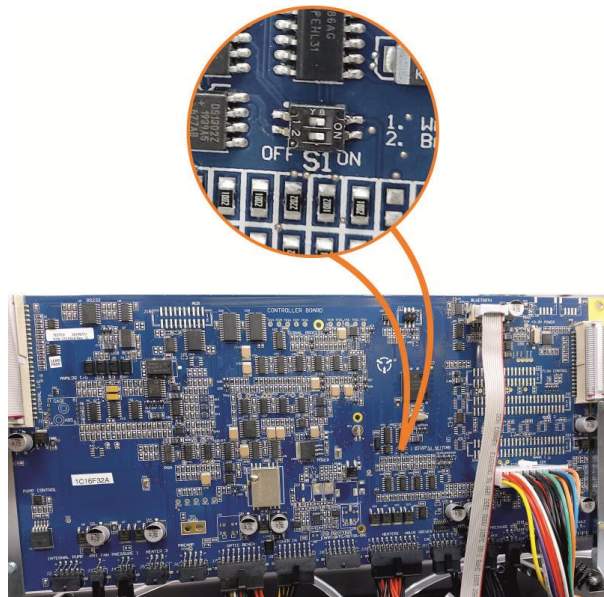

Figure 36 – Switching the Battery ON/OFF
2. Refer to Figure 36. Check the battery is turned ON at the main controller PCA.
3. Refer to Figure 36. If storing over a long period (six months) turn the battery OFF by the switch on the main controller PCA.